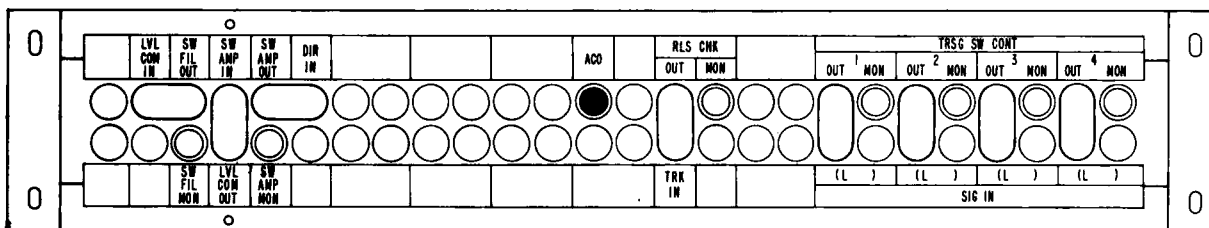

Fig. 3—Jack Field in Switch Control Bay
- 9 On the switch control bay jack panel, remove the patch plug between the SW FIL OUT and LVL COM IN jacks (Fig. 3).
| 32   | On the switch control bay jack panel, remove the patch plug between the LVL COM OUT and SW AMP IN jacks (Fig. 3).                                                                                                                                                 |
- 8 On the switch control bay jack panel, remove the patch plug between the SW FIL OUT and LVL COM IN jacks (Fig. 3).